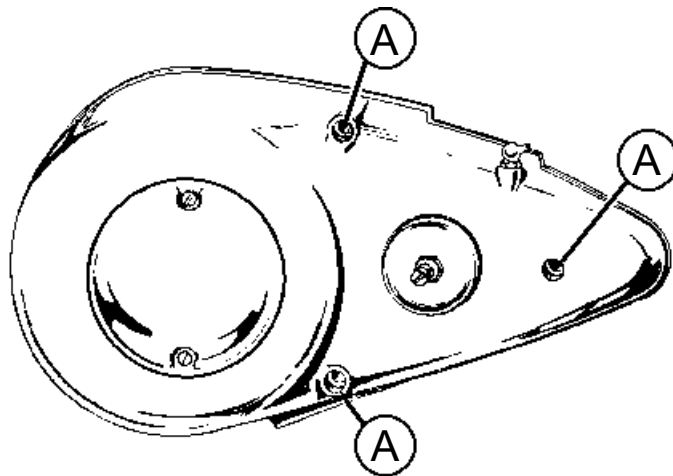

Fig. D10.
Remove the three screws (A) Fig. D10, and take off the cover.